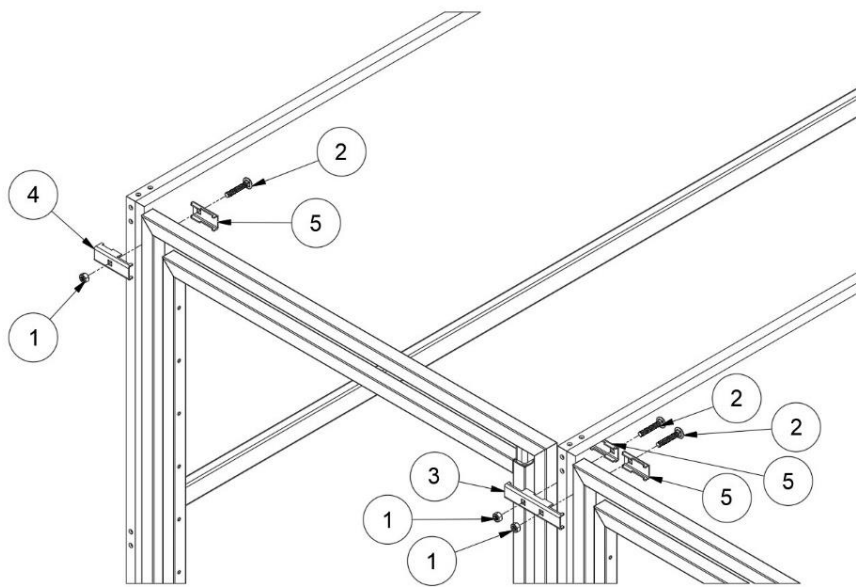
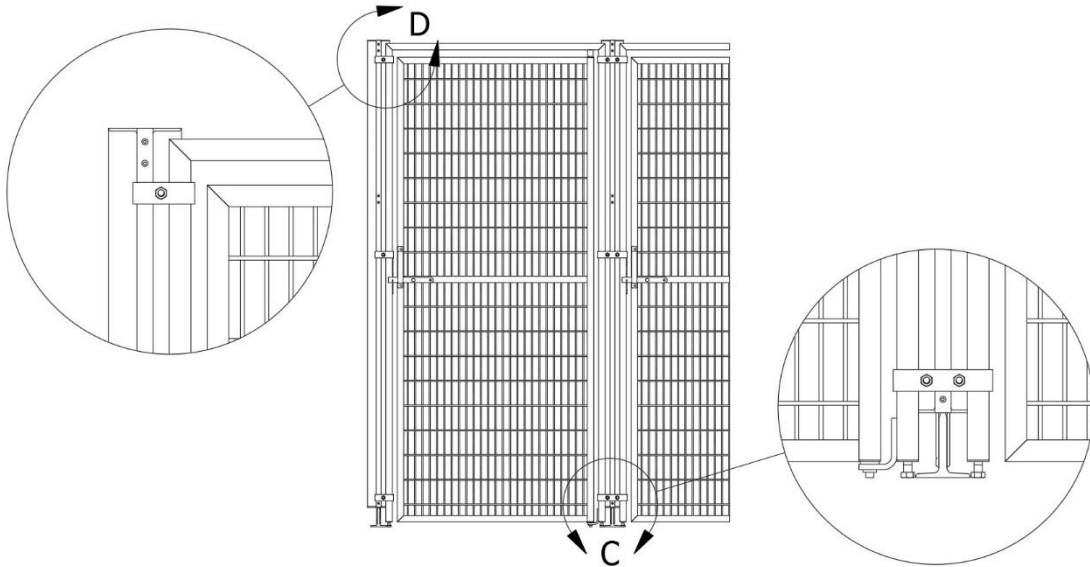

Figure F.4
Figure F.5
1. Attach the gate/stall front on the front of each run between the division panels with three clamps on each side using the 5/16” x 1-3/4” bolts and nuts provided as shown in Figure F.4. Note: It takes two halves to make up one clamp. Attach gates/stall fronts to outside division panels using “square – 1” panel clamps”. All other gates/stall fronts will use “square – 1” triple clamps”. **To help ensure the safety of the animals the round head of the bolt should be assembled toward the inside of the run.** Note: The triple clamps attach two gates/stall fronts together. Therefore, you will have to hang two gates/stall fronts at the same time (see Figure F.5).